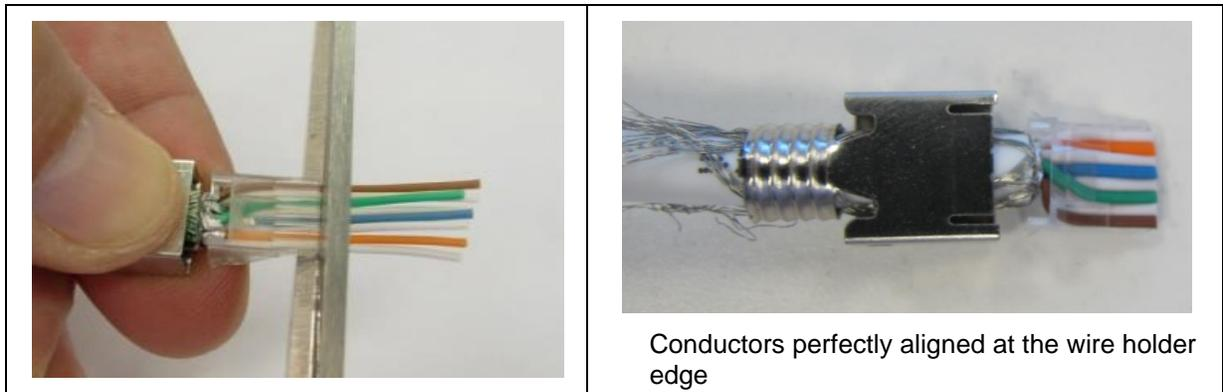

Figure 8. Trim Conductors Even with Wire Holder
5. While holding all conductors down against the wire holder in a flat layer, trim all conductors evenly and square with appropriate tooling just beyond the front edge of the wire holder as shown in Figure 8.